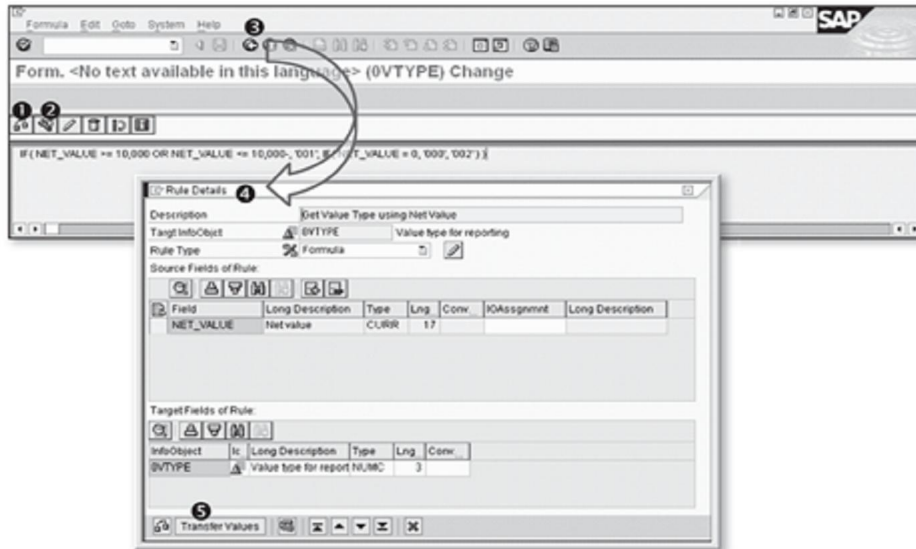

Figure 7.66 Exiting Formula Builder after Checking Formula
The final formula is shown in the formula definition area of Figure 7.66. You can use the Check icon (❶) to check for any syntax errors. In addition, the Formula Builder offers an expert mode, which you can access by clicking the icon shown in ❷. The expert mode allows you to create formulas using the keyboard.